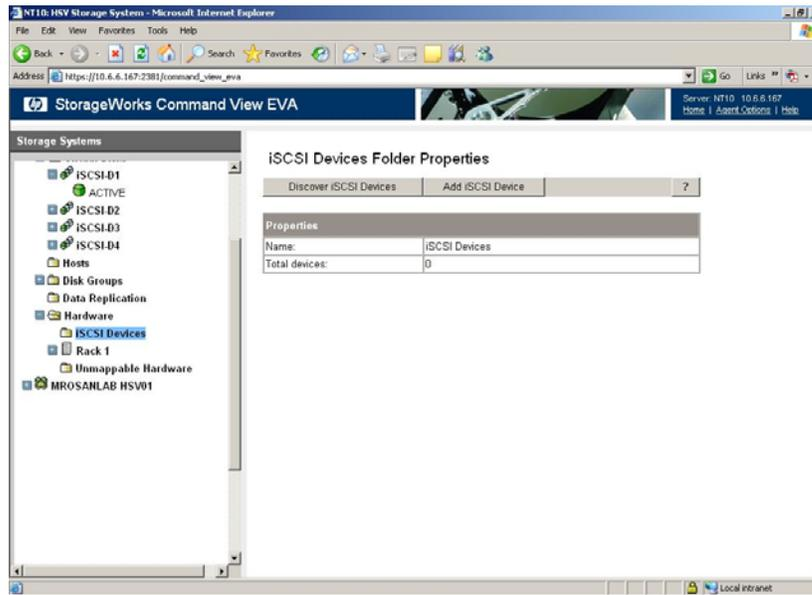

Figure 11 Discover iSCSI devices
6. Click **Discover iSCSI Devices** (Figure 11). If the iSCSI device is not discovered, click **Add iSCSI Device**, enter the mpX100/100b IP address, and then click **OK**.